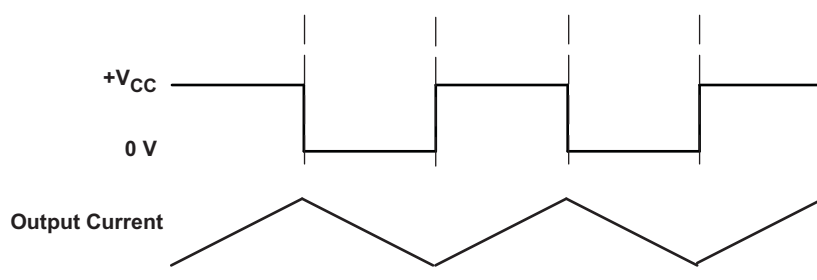
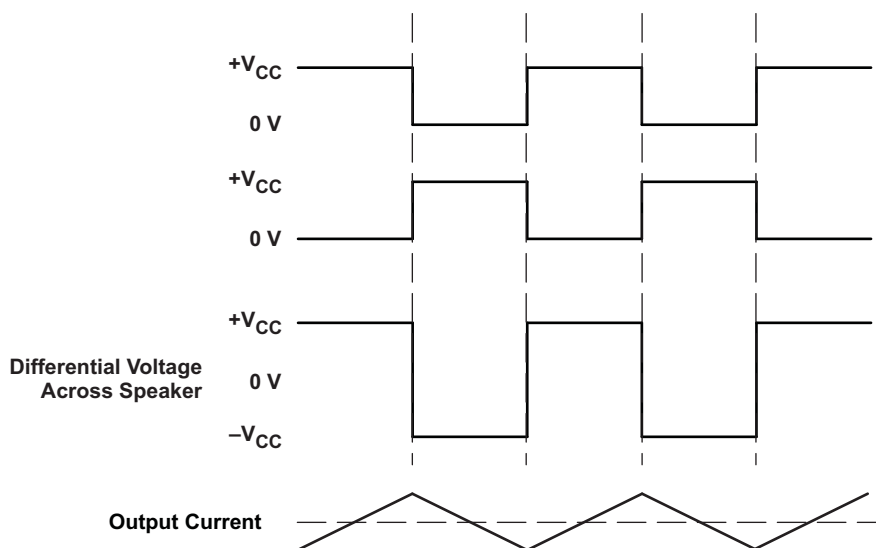

Figure 23. Class-D Modulation for TPA3120D2 SE Configuration
Figure 24. Class-D Modulation for TPA3120D2 BTL Configuration
The TPA3120D2 operates in AD mode. There are two main configurations that may be used. For stereo operation, the TPA3120D2 should be configured in a single-ended (SE) half-bridge amplifier. For mono applications, TPA3120D2 may be used as a bridge-tied-load (BTL) amplifier. The traditional class-D modulation scheme, which is used in the TPA3120D2 BTL configuration, has a differential output where each output is 180 degrees out of phase and changes from ground to the supply voltage,  $V_{CC}$ . Therefore, the differential prefiltered output varies between positive and negative  $V_{CC}$ , where filtered 50% duty cycle yields 0 V across the load. The class-D modulation scheme with voltage and current waveforms is shown in Figure 23 and Figure 24.